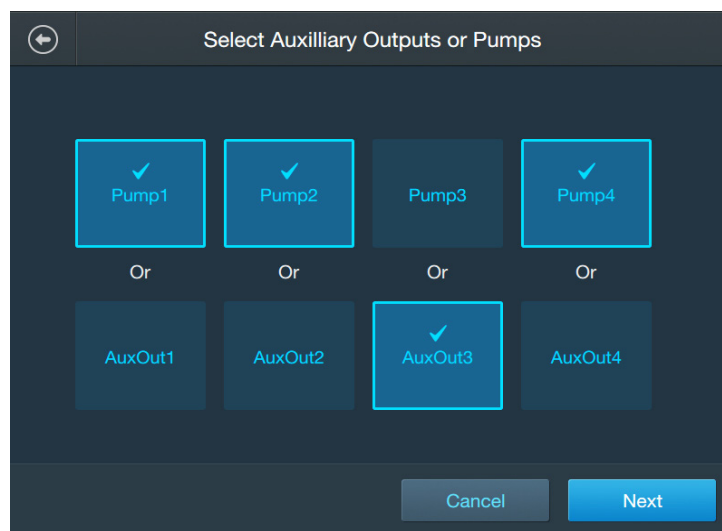

Figure 3.13. Selecting pumps and/or auxiliary outputs.
3. The Select Auxiliary Outputs or Pumps screen that appears allows the user to select a combination of four pumps and/or auxiliary outputs (Figure 3.13). Touch the pumps and/or auxiliary outputs you would like to use to add them to your Home screen. To deselect a pump or auxiliary output, touch the button again. When you are finished, touch **Next**.